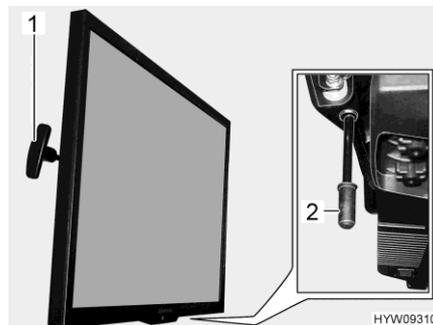

Fig. 61 Flat screen
- Pull and hold handle (Fig. 61,1). The flat screen is unlocked.
- Pull down the handle (Fig. 61,2) and hold it there. The flat screen is unlocked.